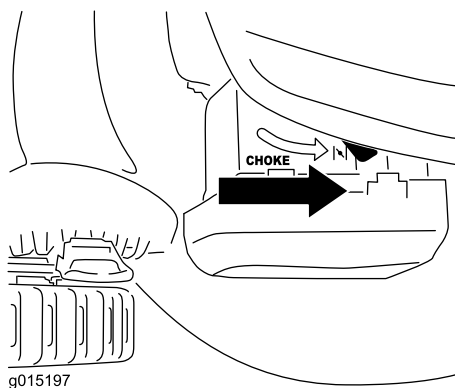

Figure 20
- When the engine is cold, move the choke lever to the Choke position (Figure 20).